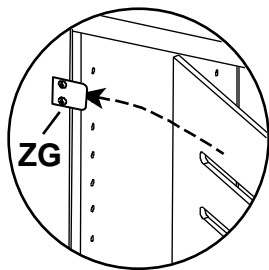

Fig. 2a
2. You may want to remove the Removable Backs (N) so that you can fit your media units into the console more easily. To do so, unlock the Turn Button (ZH) as shown in Figures 2 and 2b. Slide the backs away and place them off to the side. To put them back into place, slide the backs behind the Drawer Stops (ZG) and position the Turn Button so that it is locked. See Figures 2a and 2b.